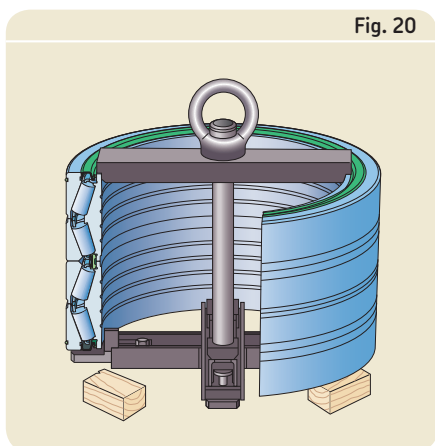

Fig. 20
- Assemble the bearing components in the correct order starting with outer ring D, supporting the bearing on wooden blocks (→ **fig. 20**)